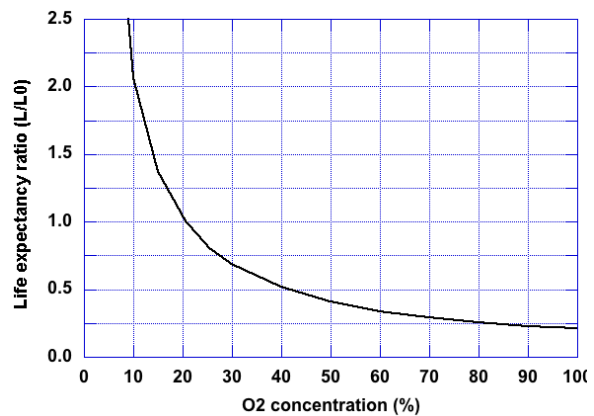

Fig. 8a - Relationship of life expectancy vs. O₂ concentration (L₀ = life at 21% O₂)
Figure 8a shows the relationship between life expectancy and O₂ concentration for KE-LF sensors. The Y-axis indicates the ratio of life expectancy in a given O₂ concentration (L) to life expectancy in natural air (L₀). The greater the O₂ concentration, the shorter the life expectancy. The influence of atmospheric pressure on life expectancy is estimated based on the O₂ concentration in a given atmospheric pressure.